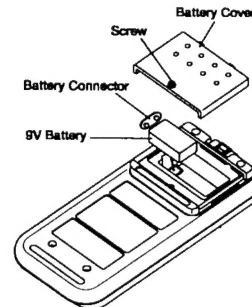

Figure 4.
9.1 BATTERY REPLACEMENT (refer to Figure 4)